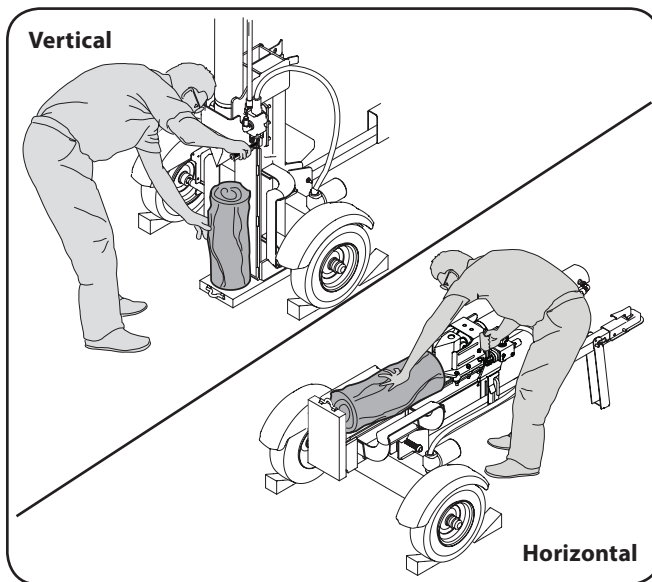

Figure 2-1
6. Always operate this machine from the operator zone(s) specified in the manual. See Figure 2-1.
- a. Horizontal Operating Position: Stand on the control lever side of the log splitter and stabilize log as shown, if needed. See Figure 2-1.
- b. Vertical Operating Position: Stand in front of the log splitter and stabilize log as shown, if needed. See Figure 2-1.